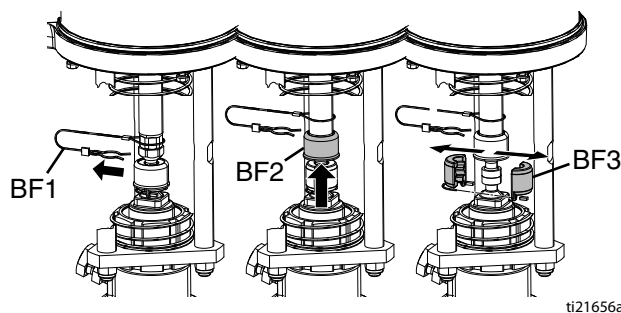

FIG. 40
3. Disconnect pump rod (see FIG. 40):
4. Loosen three tie rod nuts (44), then loosen and remove tie rods (42) from air motor. See **Parts**, page 30.
6. Align air motor with tie rods (42) then tighten tie rods to air motor.
7. Tighten tie rod nuts (44).
8. Connect the pump rod. See FIG. 40.